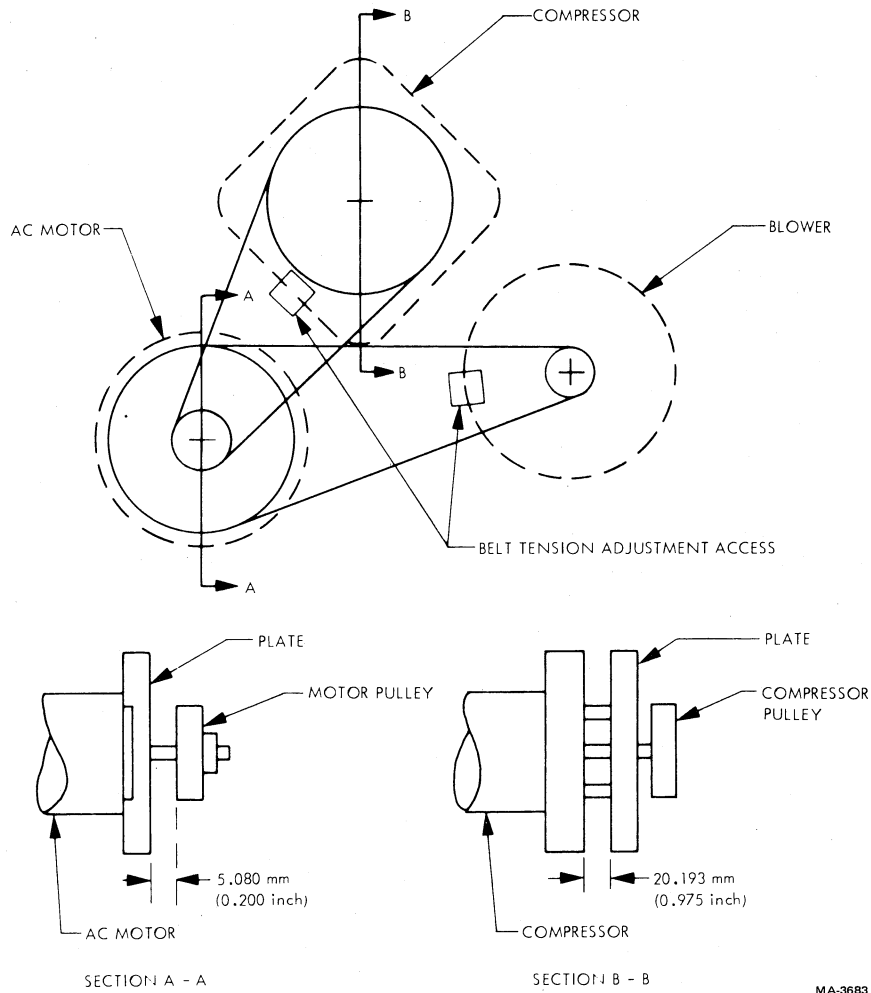

Figure 6-51 Blower and Compressor Pulley Alignment
8. Reassemble in reverse order aligning pulley on shaft set (Figure 6-51). Manually rotate motor clockwise and make sure both belts track completely on pulleys. Some slight shift of motor pulley may be necessary.
3. Loosen blower mounting screws. Slide blower left and slip belt off pulley (Figure 6-51).
9. Reassemble in reverse order using steps 3 through 6 and setting pulley position according to Figure 6-51.